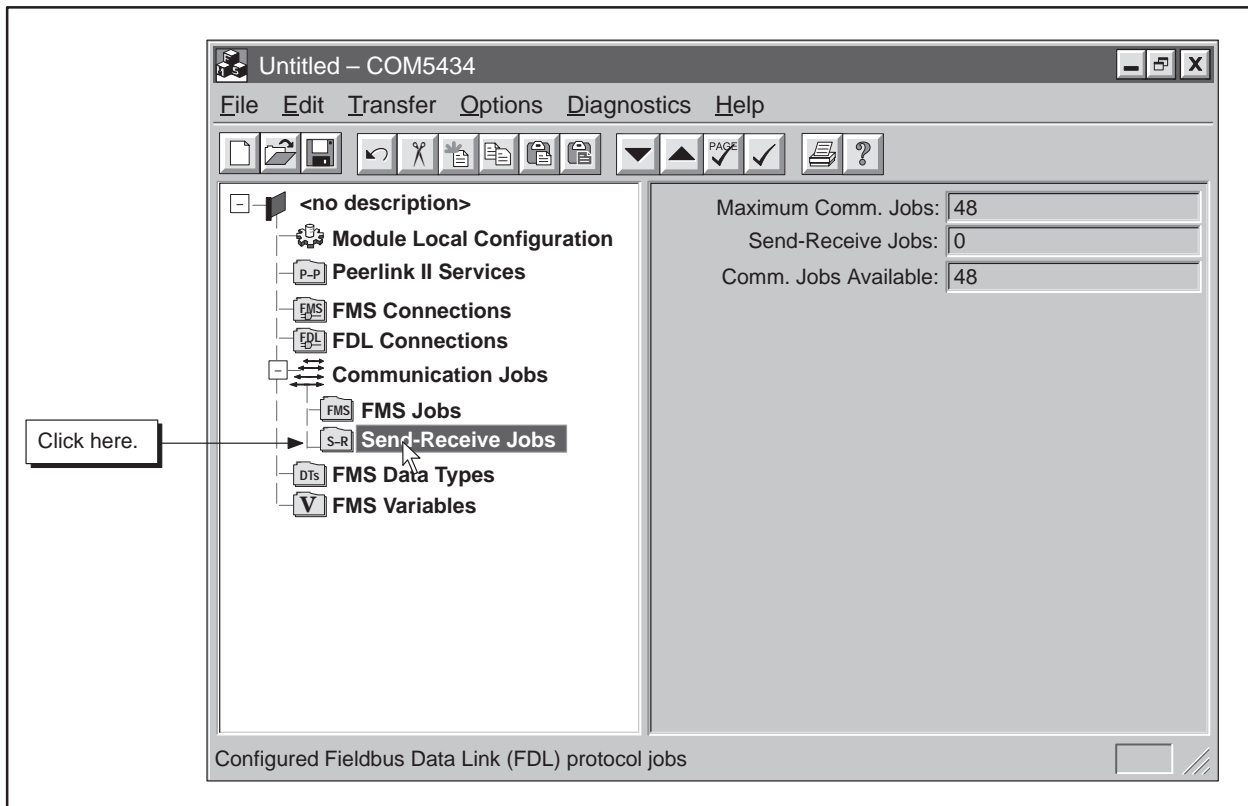

Figure 5-22 Send-Receive Jobs
**Send-Receive Jobs** Before you can configure a Send-Receive job, you must have defined an FDL connection between the local FMS CP module and the remote device (see Section 5.7). The FMS CP module supports 48 communication jobs, which may be a combination of FMS and Send-Receive jobs. Click on Send-Receive Jobs on the configuration tree to see the number of communication jobs available, as shown in Figure 5-22.